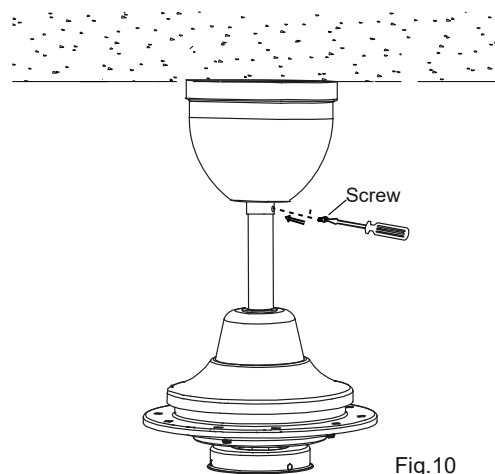

Fig.10
8. When the connection is completed, raise the top canopy and tighten it with the screw attached, Tighten the Set Screw of the Coupling cover.(Fig.10)